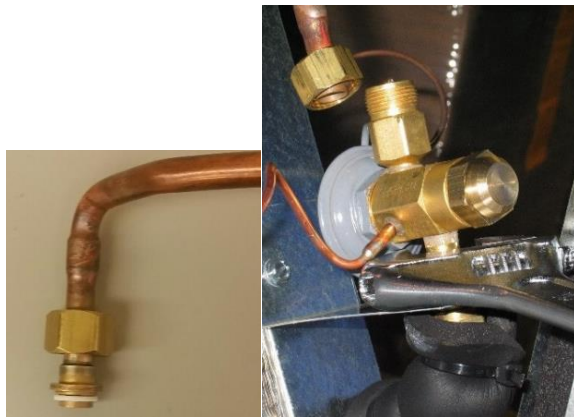

Figure 23. Install White Teflon O-ring in both connections (not on iSeries). Attach and tighten lower connecting nut
1. Install the white Teflon o-ring in both connections of the TXV (figure 23). Attach and tighten lower connecting nut to the distributor as shown in Figure 23. On iSERIES, connect liquid line directly to the distributor (Figure 26).